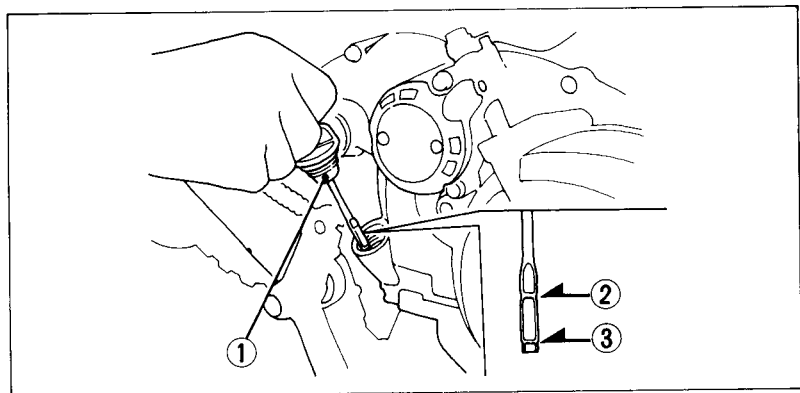

Fig. 4-10
2. Remove the oil filler cap/dipstick (Fig. 4-10) from the right crankcase cover and wipe it clean.
3. Insert the dipstick without screwing it in, then remove the dipstick and check the oil level. The oil level should be between the upper level mark (2) and the lower level mark (3) on the dipstick.
1. With the TRX300FW on level ground, remove the oil filler cap/dipstick from the right crankcase cover (Fig. 4-10).